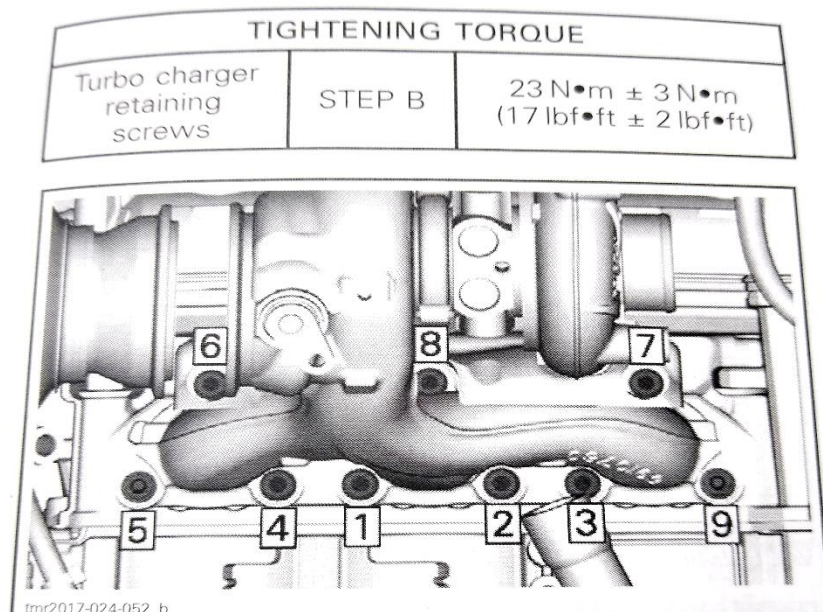

Figure 3
Step 5: Torque retaining screws to 17 ft-lb, following the order shown in Figure 3. On the final torque sequence take a 4mm Allen wrench and hold stud while tightening copper nut with 10mm wrench as close to 17 ft-lb as you can. (make sure you have at least 2 threads protruding from nut)